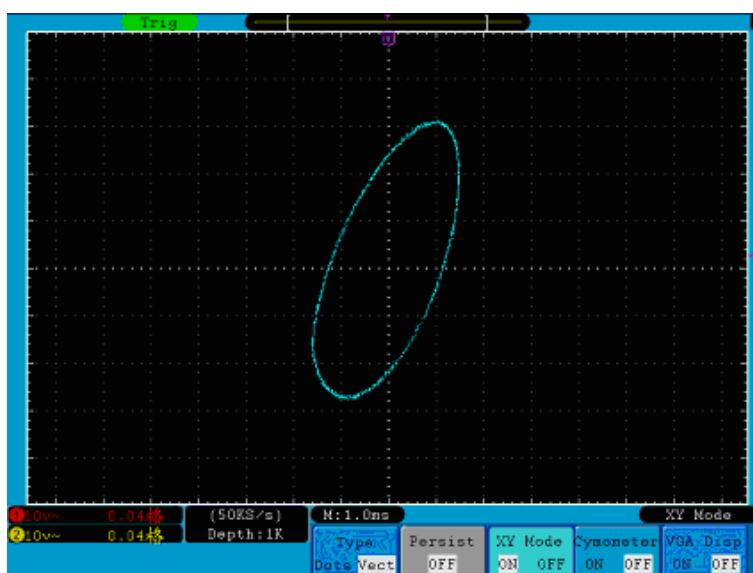

Figure 49. XY Display Mode.
- 2 Press the **H3** menu selection button to set XY Mode **ON**. The display format is changed to be XY mode (see Figure 49.).